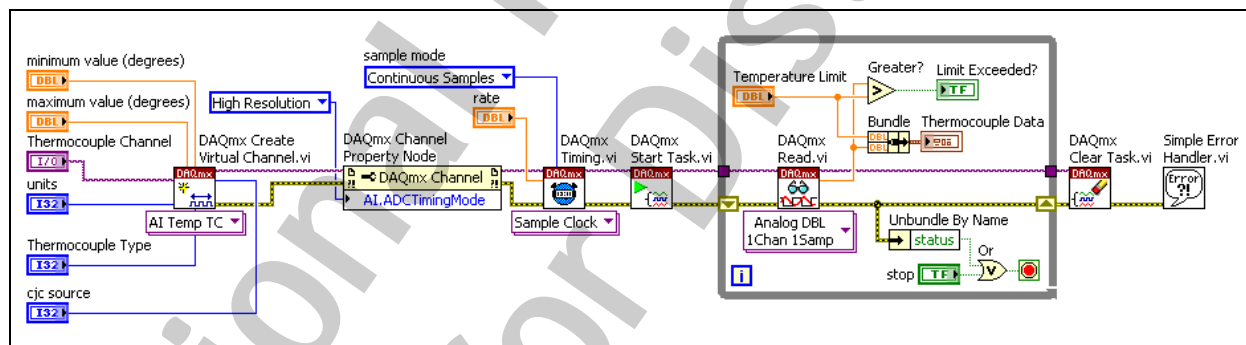

Figure 7-1. Thermocouple VI Block Diagram
2. Modify the block diagram of the Thermocouple VI to acquire temperature measurements from a thermocouple and monitor a user-specified temperature limit monitor, as shown in Figure 7-1, using the following items: